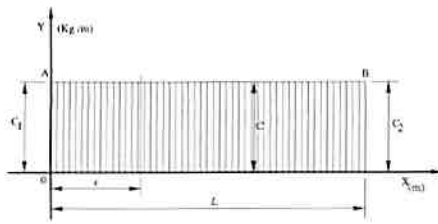

Figure 9-6
**Rectangular cantilever wing.** In the case of a rectangular wing, we will have a load diagram with a line parallel to the x axis as shown in Figure 9-6, so  $C_1 = C_2 = C$ .